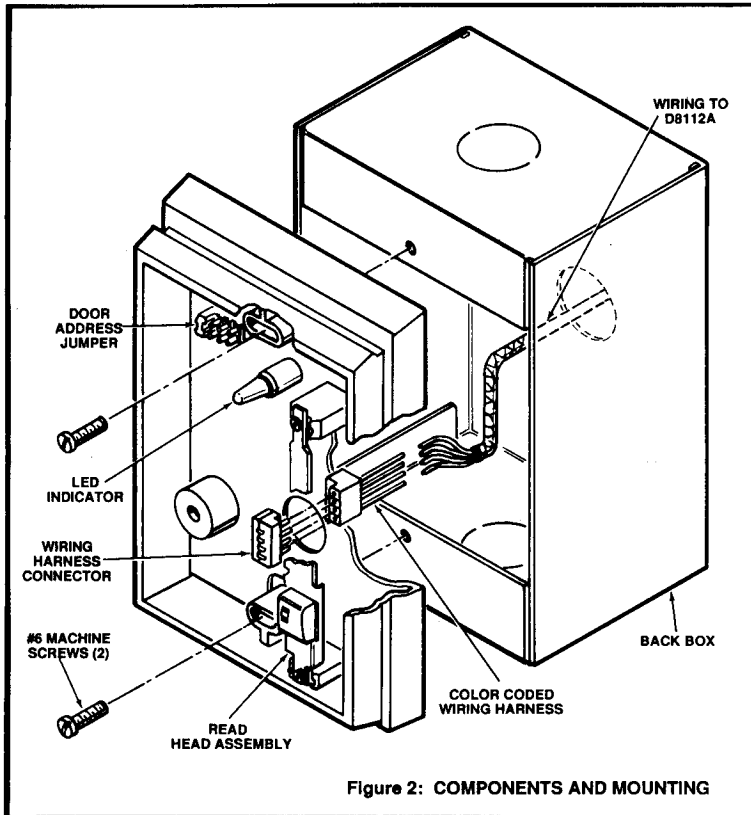
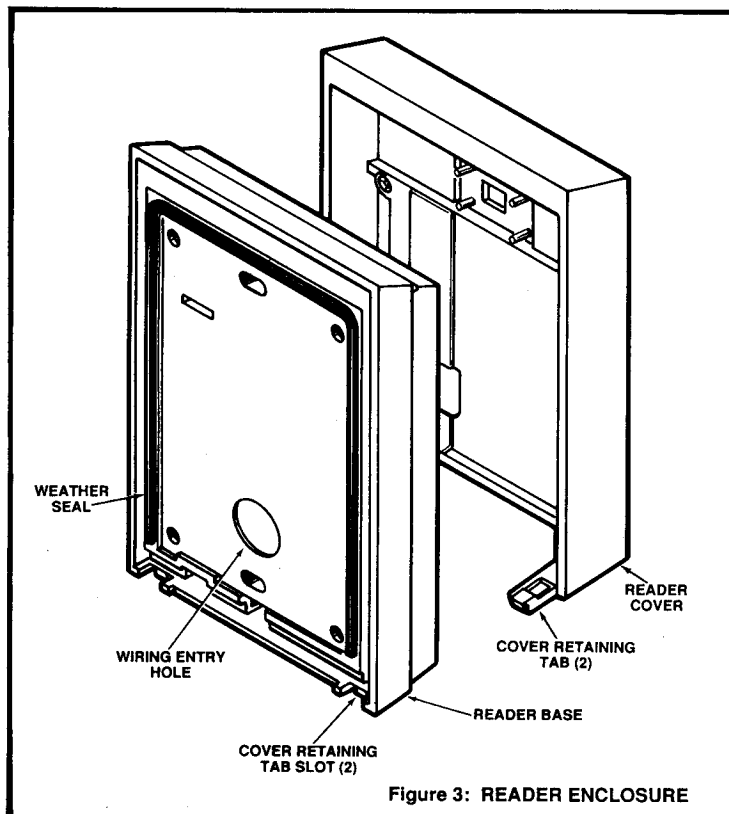

Figure 2: COMPONENTS AND MOUNTING
Figure 3: READER ENCLOSURE
Door Address Jumper: (See Figure 2.) The door address determines which relays on the D8129 will be activated by valid cards read by the D8220. The Door relay is used to control the doorstrike. The Buzzer relay operation follows the D8220's internal buzzer operation. The Buzzer relay can be used to operate a light, an additional buzzer, or other annunciator. The timing of both relays is individually controlled by program entries in the 8112:ACCESS product handler program (see the *8112:Access, 8112:Assign, and 8112:Cards Program Entry Guide*, section 6).
- 1) Install the weather seal on the reader by pushing it securely and evenly into the "U" shaped recess on the reader's base. (See Figure 3.) The weather seal is optional for indoor installations.
- 2) Connect the wiring assembly to the D8220. Carefully insert the cable connector into the entry hole in the base of the reader's enclosure. (See Figure 3.) Gently push the cable connector onto the pin connector. (See Figure 2.)
- 3) Attach the base of the of the D8220 to the backbox using the two #6 mounting screws provided. (See Figure 2.)